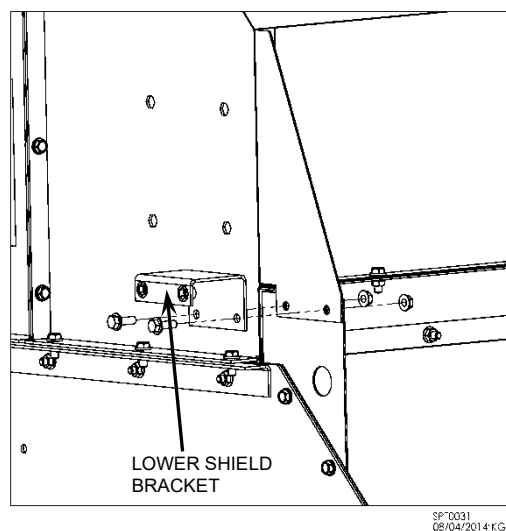

Fig. 2-27 – Lower shield bracket installation
1. Bolt lower shield bracket to end of dryer using 5/16 x 1" bolts and 5/16 nuts. See Fig. 2-27.